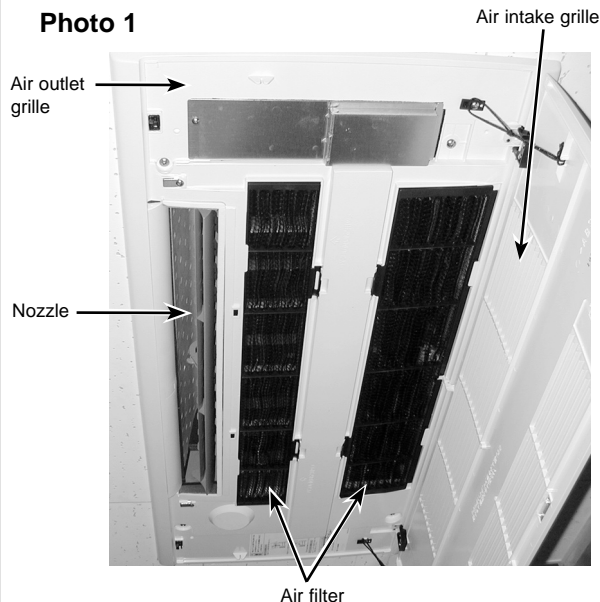

Figure 1
- (1) Press the **PUSH** of the air intake grille. (See Figure 1)
- (2) Put your fingers on the both ends of nut of the air intake grille and put it down after the grille clicked.
- (1) Press the **PUSH** of the air intake grille, and pull down the both ends of nut with your fingers after the grille clicked. (See Figure 1)
- (1) Open the intake grille by pressing **PUSH** of the air intake grille and remove the air filter (× 2). (See Figure 1)